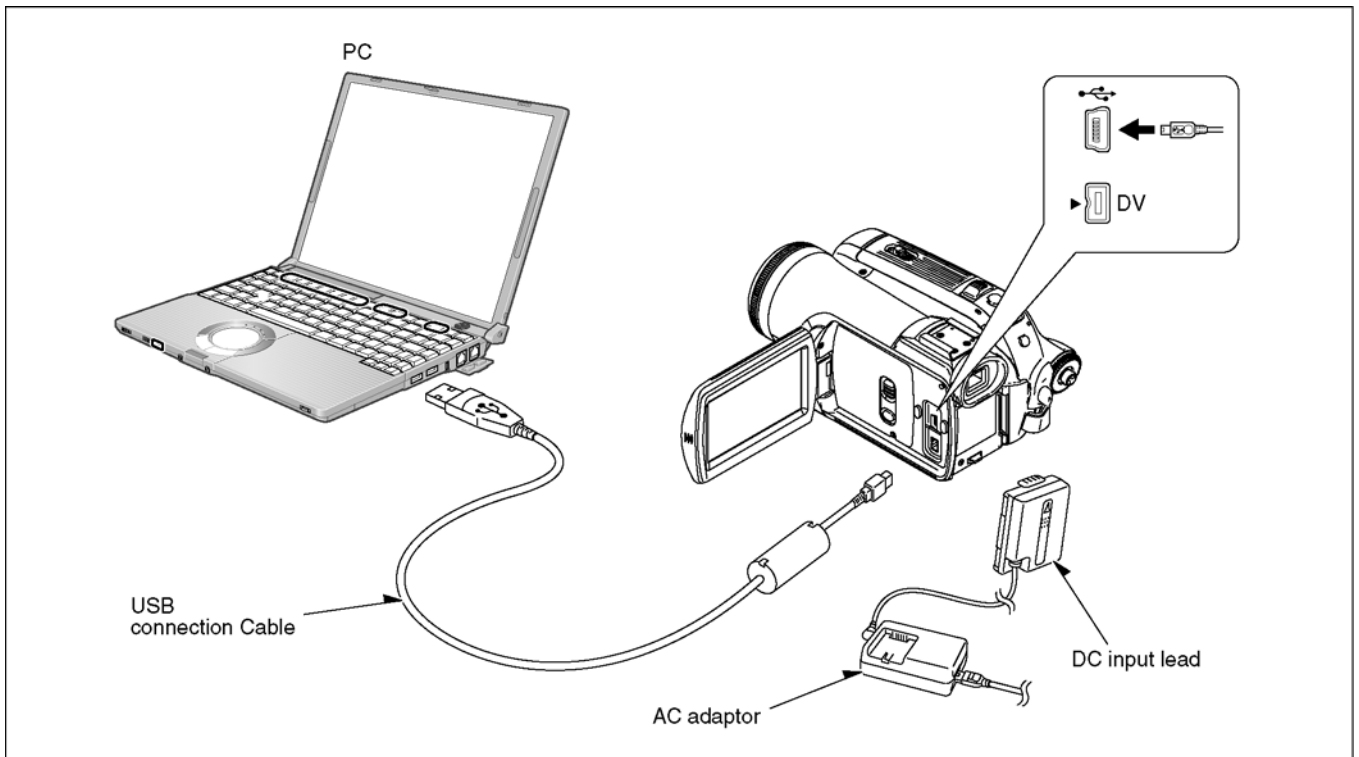

Fig. E1
- b. Connect the PC and DV Camcorder as shown in Fig. E1 and E2.